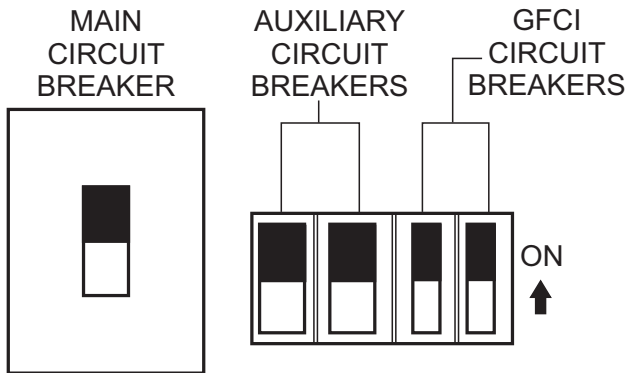

Figure 42. Main, Aux. and GFCI Circuit Breakers (ON)
15. Place the **main, GFCI, and aux.** circuit breakers in the **ON** position (Figure 42).